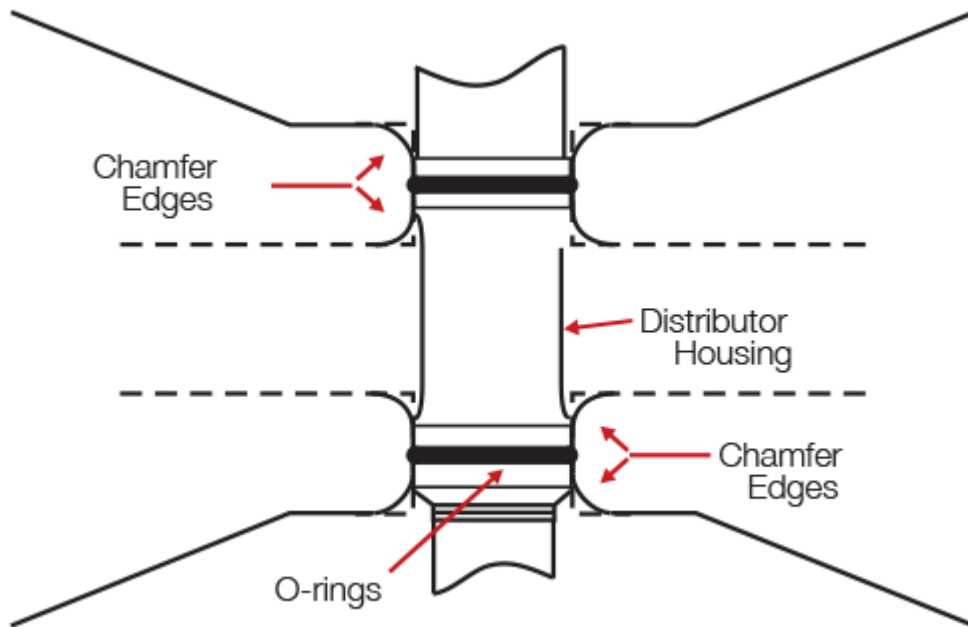

Figure 9
- 9). The supplied springs and bushings can only be used if the block has been modified as shown in Figure 9.